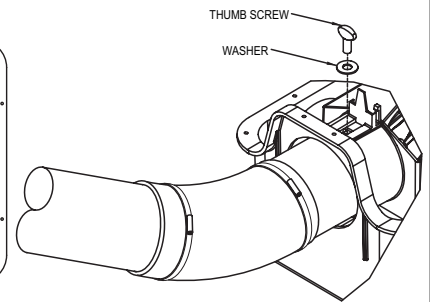

Figure 5.2
- 5.2) Engage 3/8" - 16 thumb screw and large washer onto the diverter as shown in figure 5.2. **DO NOT OVERTIGHTEN THUMB SCREW.**